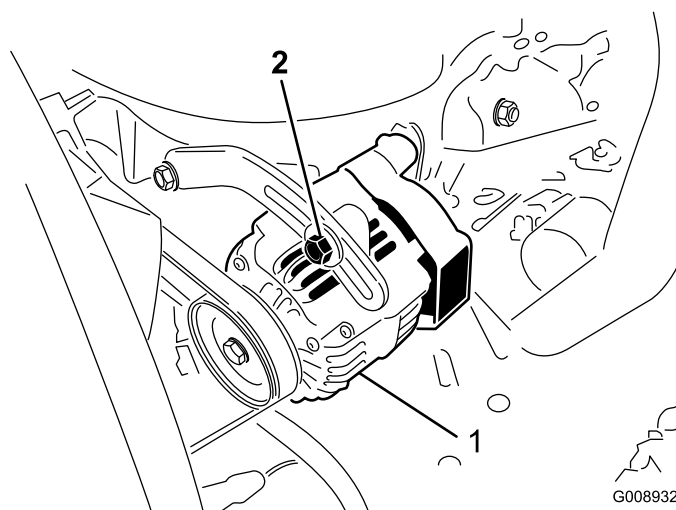

Figure 53
Check the condition and tension of the belts (Figure 53) after every 100 operating hours.
2. If the deflection is not 10 mm (3/8 inch), loosen the alternator mounting bolts (Figure 53).